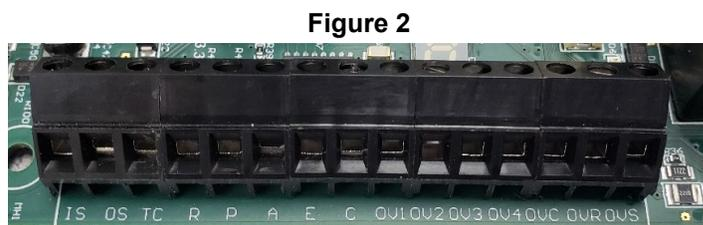

Figure 2
6) Low Voltage Wiring (Figure 2):